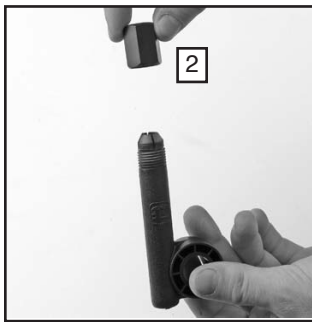

Figure 2
2. Loosely screw one Locking Nut (2) onto each Telescope Bracket. **Figure 2.**